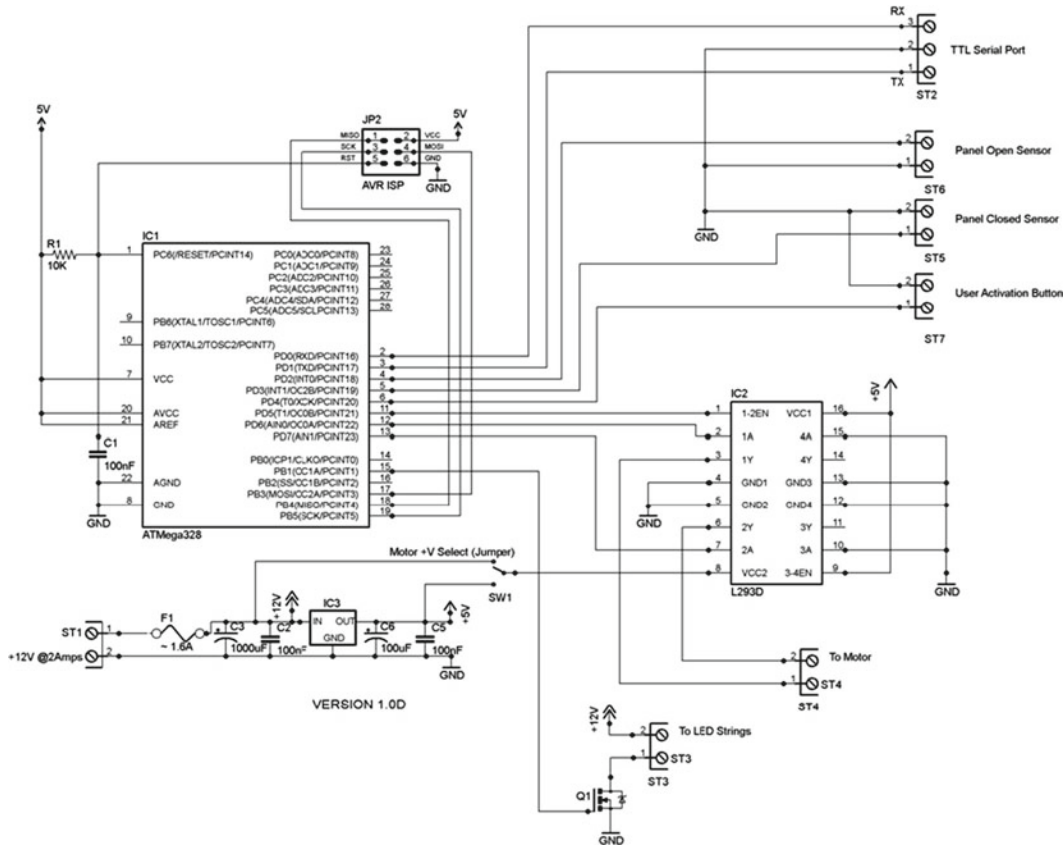

Figure 8-11. Secret panel circuit diagram
Figure 8-11 shows the circuit diagram for the electronics side of the secret panel project.
■ **Caution** It's *very* important to make sure that you use a fuse—as indicated in the Figure 8-11—nasty things can happen if something goes wrong and there is no fuse to blow! This is especially important in any device with moving parts where fingers may get caught.
Pin 8 of the LS293D is the motor supply pin. As shown in the diagram in Figure 8-11, you can use a simple wire jumper to provide power from +5 volts or +12 volts, depending on the voltage your motor requires. The L293D spec says you can use up to +36V as the motor supply. The unused half of the L293D simply has its inputs tied to ground. As you may remember from our previous encounter with the L293D, we don't need to use snubber diodes or any current limiting; the chip has all that built in.
If you are having problems, there is provision in the software for fitting a "fault" LED provides additional assistance (it's not shown on the circuit diagram in Figure 8-11 because I never needed it and hopefully you won't either). If you want additional indication of what the MCU is doing, attach an LED with its + lead to AVR pin 14 (Arduino digital pin 8) and its negative lead through a 330R resistor to ground. When this LED lights up it means that a panel transit has taken too long. During building you'd see messages about this on the serial channel. However, once installed and working it could be handy to have an LED indicator showing there is a problem.